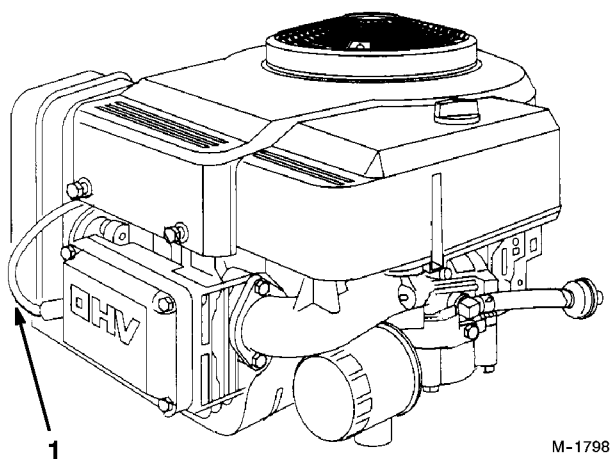

Figure 23
3. Pull the wire off the spark plug (Fig. 23). Now clean around the spark plug to prevent dirt from falling into the engine and potentially causing damage.
3. Push the wire onto the spark plug (Fig. 23).